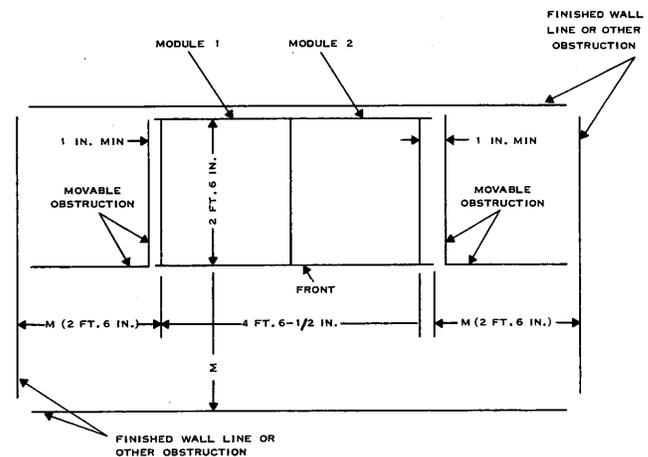

Fig. 1
3.01 Fig. 1 shows floor space requirements for the cabinet and required maintenance space.